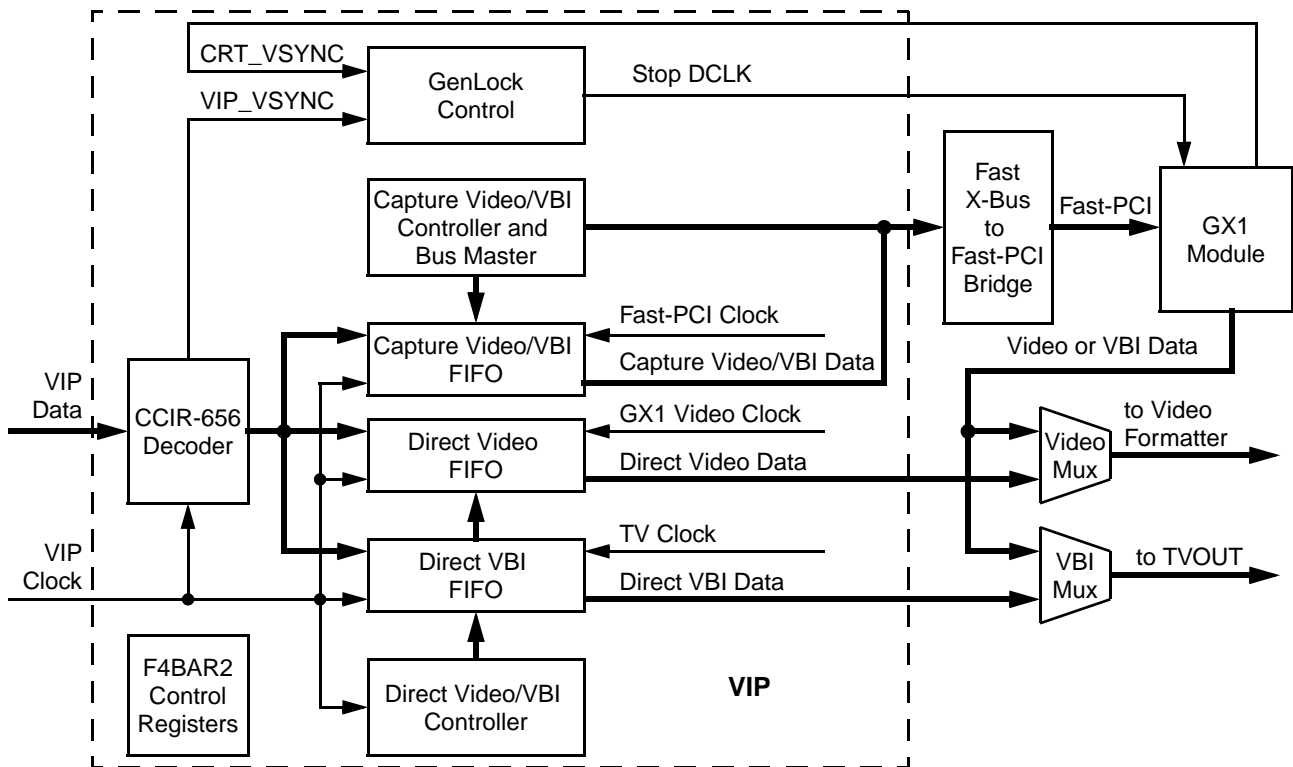

Figure 6-4. VIP Block Diagram
The VIP block is designed to interface the SC1200/SC1201 with external video processors (e.g., Geode CS1300 or Sigma Designs EM8400) or external TV decoders (e.g., Philips SAA7114). It inputs CCIR-656 Video and VBI data sourced by those devices, decodes the data, and delivers the data directly to the Video Formatter (Direct Video/VBI modes) or to the GX1 module's Video Frame Buffer (Capture Video/VBI modes). Figure 6-4 shows a diagram of the VIP block.
- 2) The altered VBI data can be sent to the TVOUT block of the Video Processor via the video frame buffer. See VIP block diagram (Figure 6-4 on page 323). The Closed Captioning data could be altered and then sent out this way. One reason to capture the Closed Captioning data would be to do a language conversion. If the VIP block is in Capture Video mode then this option is not possible because the video frame buffer can be used for sending video or VBI, but not simultaneously.